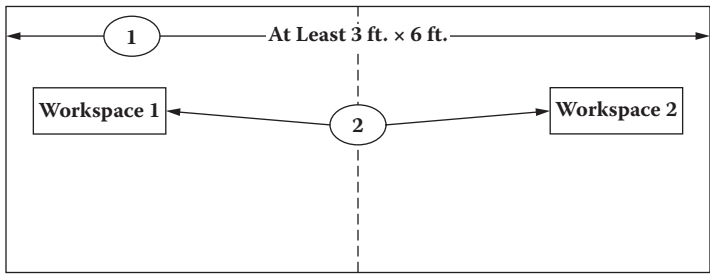

Figure A.12 “Wall” paper with two workspaces.
- 2. Draw one horizontal band for each “responsible entity” involved in the process (Figure A.12). Bands may be used to represent organization parts or functions, roles, job titles, IT systems, even in-boxes, or other *places where work accumulates*.